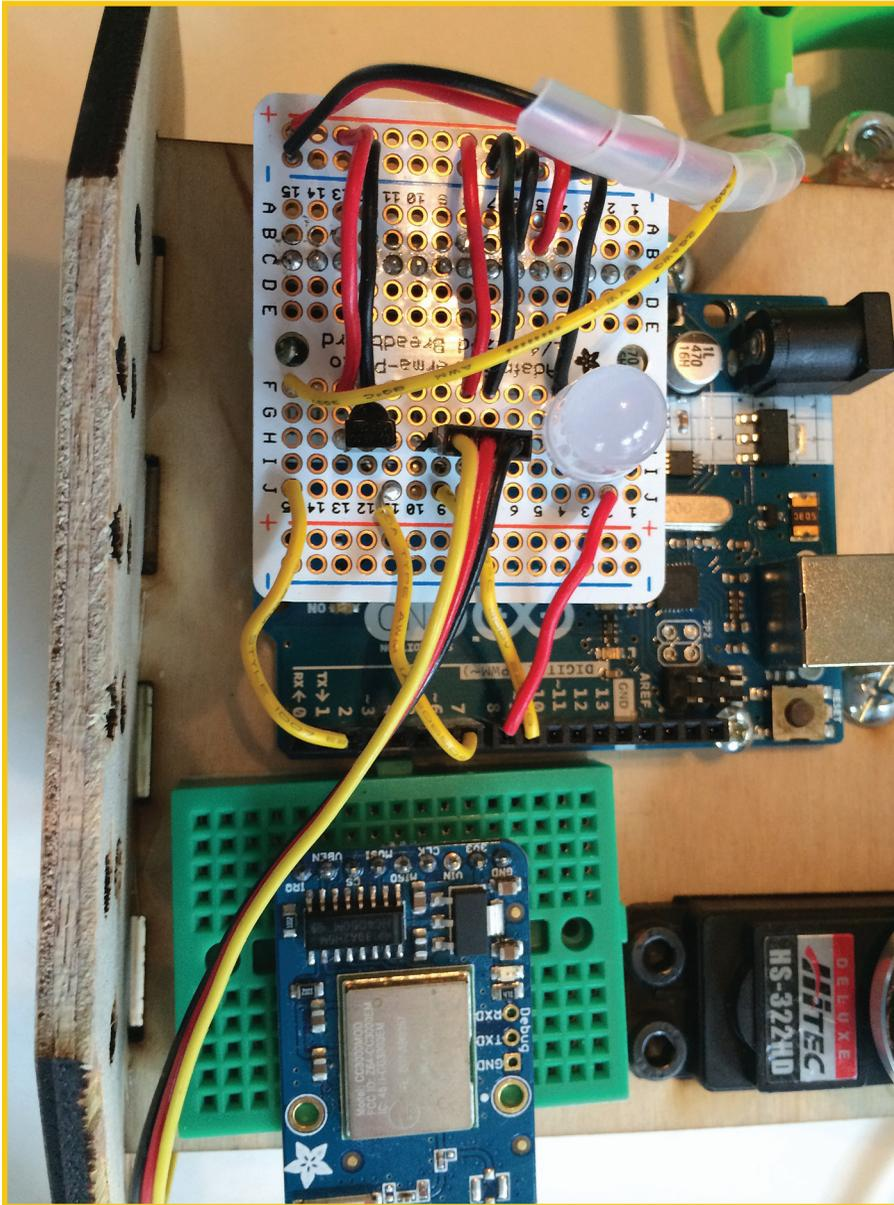

FIGURE 13.10 Plug the Wi-Fi card into the breadboard.
STEP 2 Plug in the CC3000 with the supplied header pins. (If you haven't yet done so, you should solder the pins into the breakout board, allowing you to plug it into a breadboard.) Give yourself room to add jumpers; one row will do it, as you see in Figure 13.10.